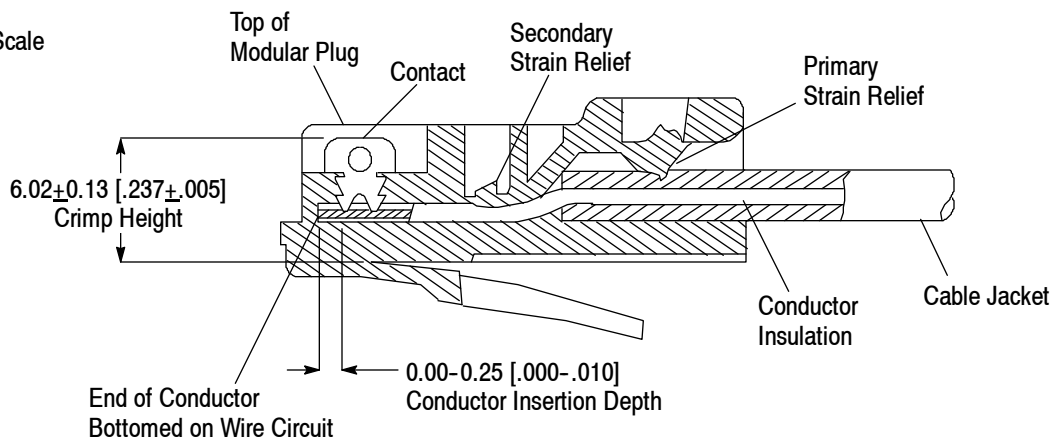

Figure 6
1. The end of each conductor must be within the dimension given in Figure 6. For optimum transmission performance, the end of each conductor must be bottomed on the wire circuits of the modular plug.
2. The crimp height (measured from the top of the contact to the bottom of the modular plug, not including the locking tab) must be within the dimension given in Figure 6. All contacts must be at approximately the same height.